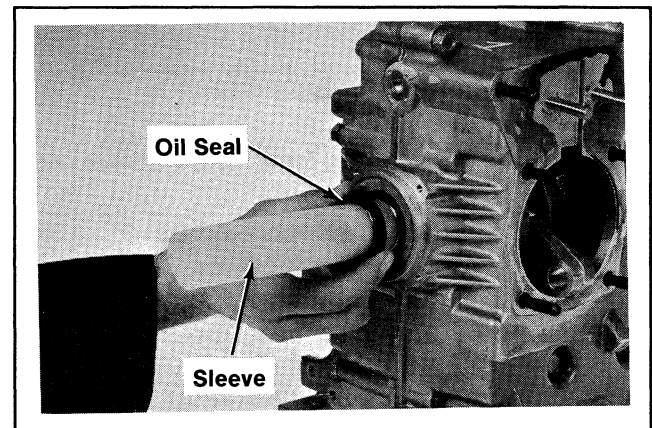

Figure 11-23. Installing Oil Seal Using Sleeve.
1. Slide the appropriate seal sleeve (refer to Section 2, "Special Tools") over flywheel end of crankshaft. Generously lubricate lips of front oil seal with light grease. Slide oil seal over sleeve. Refer to Figure 11-23.
- Slide the appropriate seal sleeve over PTO end of crankshaft. Generously lubricate the lips of rear oil seal with light grease. Slide the oil seal over sleeve. Refer to Figure 11-23.